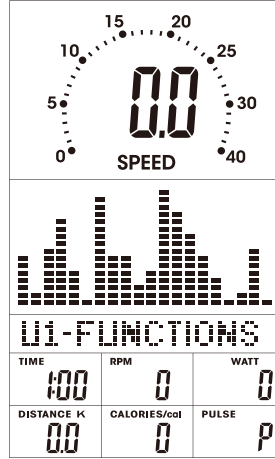

FIGURE 27
4. After beginning training (FIGURE 27~29), TIME will be counted down. When TIME is counted to 0, the screen will flash and the alarm will ring. User can press any button to stop the alarm.